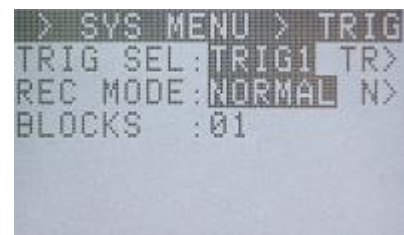

Figure 3-30 REC MODE(TRIG SET)
- 2) Select "TRIG SET" from the TOP MENU using the arrows   and press SET  to display the TRIG SET sub-menu (Figure3-30).